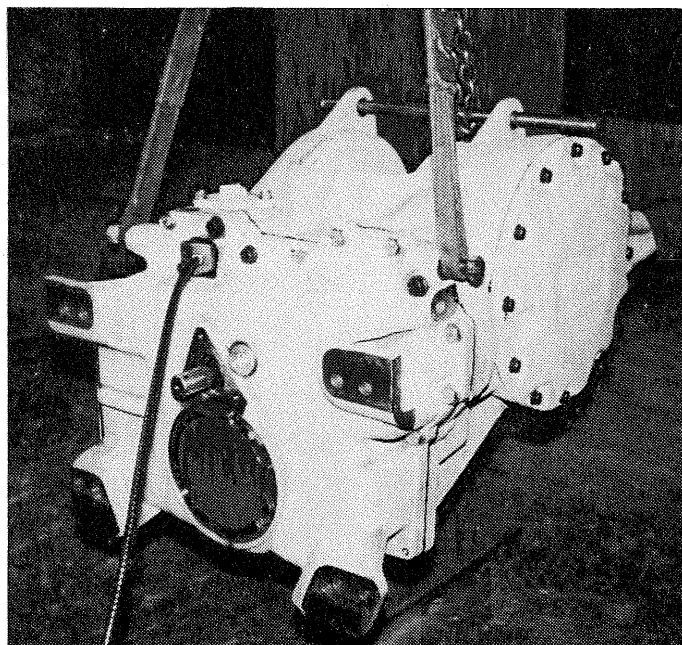

Fig. 4-1 Lifting Sling Arrangement
F. Connect slings and a crane or lifting device to the winch. Install lifting eyes into the lifting holes provided in the front cover. Put a sling around the drum or attach a chain to the eyes as shown in Fig. 4-1. Use the crane to support the weight of the winch while removing the winch mounting nuts. Make a note of the arrangement to ease installation after repairs are completed.